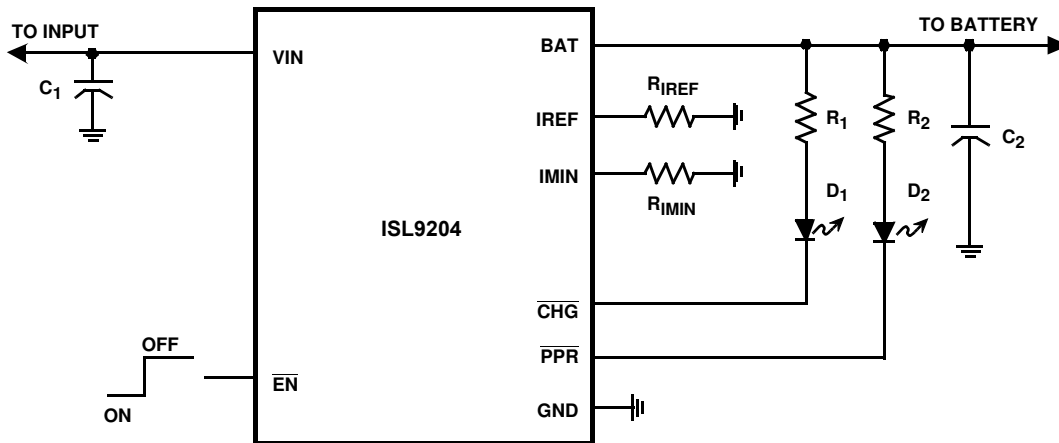
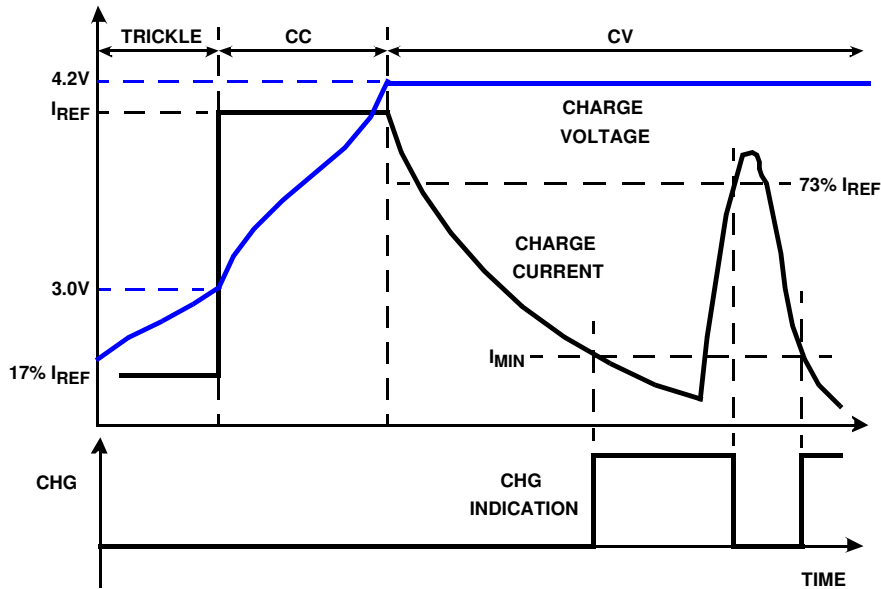

FIGURE 9. TYPICAL APPLICATION CIRCUIT INTERFACING TO INDICATION LEADS
FIGURE 12. TYPICAL CHARGE PROFILE
The ISL9204 charges a Li-ion battery with a constant current (CC) or a constant voltage (CV). The constant current I_{REF} is set with the external resistor R_{IREF} (see Figure 9) and the constant voltage is fixed at 4.2V. If the battery voltage is below a typical 2.8V trickle-charge threshold, the ISL9204 charges the battery with a trickle current until the battery voltage rises above the trickle charge threshold. When the battery voltage reaches 4.2V, the charger enters a CV mode and regulates the battery voltage at 4.2V to fully charge the battery without the risk of over charge. Upon reaching an end-of-charge (EOC) current, the charger indicates the charge completion with the CHG pin, but the charger continues to output the 4.2V voltage. Figure 12 shows the typical charge profile and the EOC/reset event.
The EOC current level I_{MIN} is programmable with the external resistor R_{IMIN} (see Figure 9). The CHG signal turns to LOW when the trickle charge starts and rises to HIGH at the EOC. After the EOC is reached, the charge current has to rise to typically 73% I_{REF} for the CHG signal to turn on again, as shown in Figure 12. The current surge after EOC can be caused by a load connected to the battery.
The PPR pin can be used to drive an LED (see Figure 9) or to interface with a microprocessor.